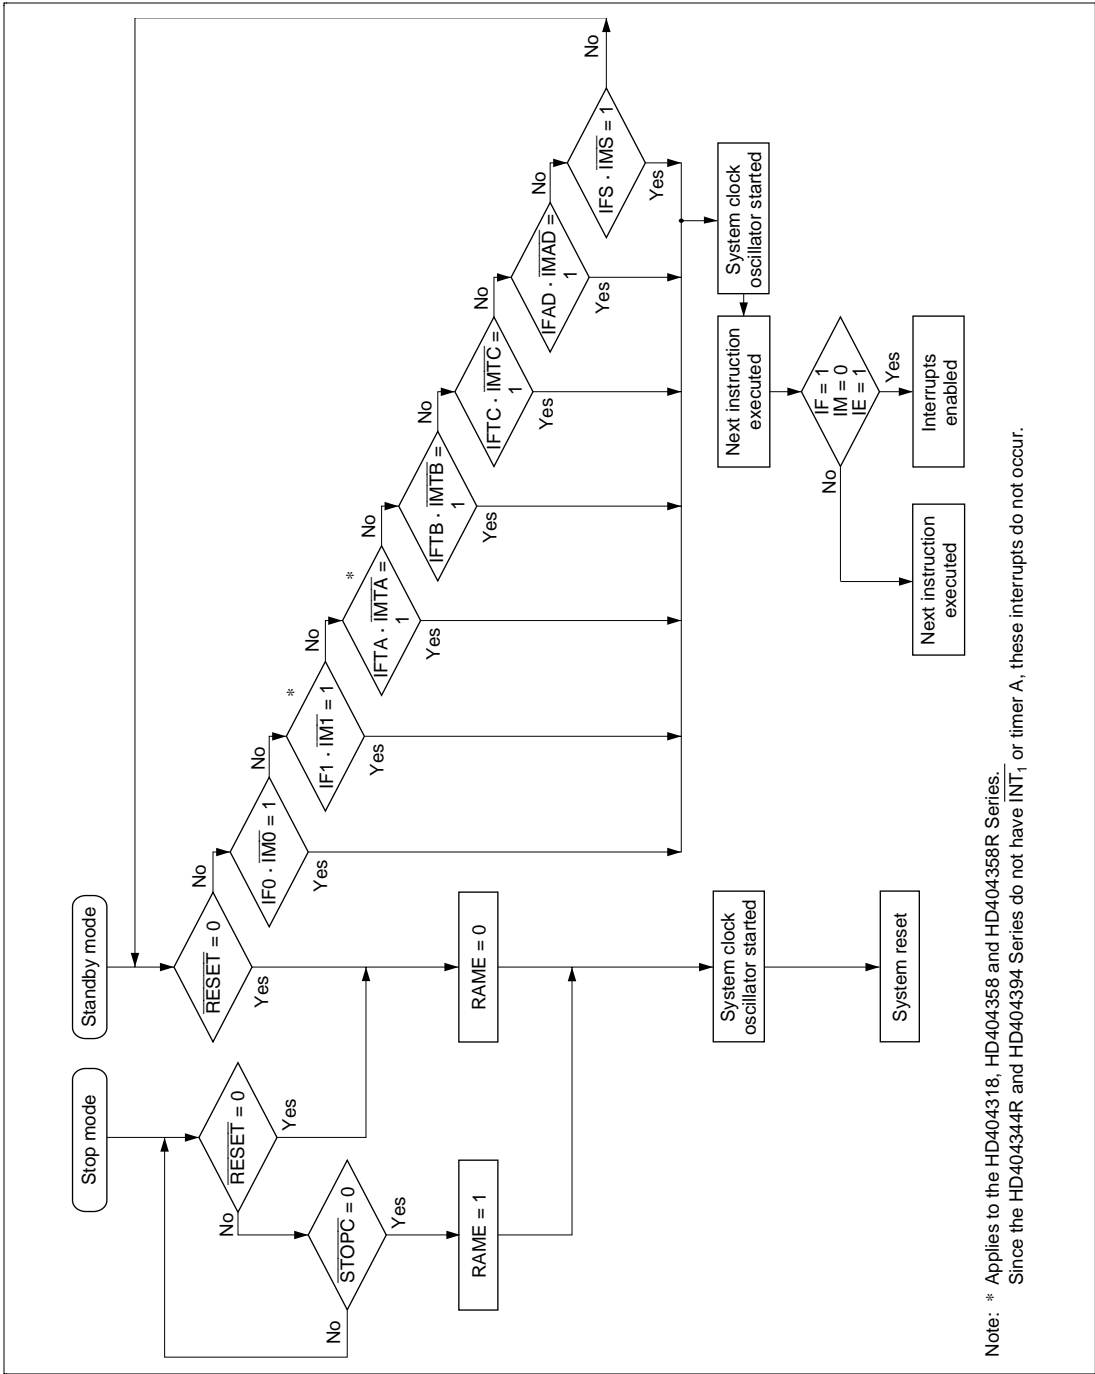

Figure 5-2 Flowchart for Exiting Low Power Modes
(1) Clearing with a $\overline{\text{RESET}}$ Pin Input: When the $\overline{\text{RESET}}$ pin goes low the system enters the reset state and standby mode is cleared.
(2) Clearing with an Interrupt: Standby mode is cleared and the system enters active mode when an interrupt occurs with its corresponding interrupt flag (IF) set to 1 and its interrupt mask (IM) cleared to 0. After the transition the instruction following the SBY instruction is executed. If the interrupt enable flag (IE) is 1, the corresponding interrupt handler will be executed. If IE is 0, the interrupt is deferred and the execution of the immediately preceding instruction sequence continues. Figure 5-2 shows the flowchart for the sequence that occurs when low power modes are cleared.
Note: See figure 5-2, "Flowchart for Exiting Low Power Modes", for details on IF and IM operation.